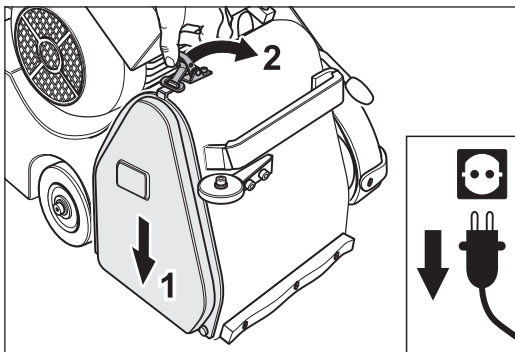

Fig. 41 Mount the side cover.
- 11 After the checking and setting of the sanding belt tracking mount the side cover (fig. 41).